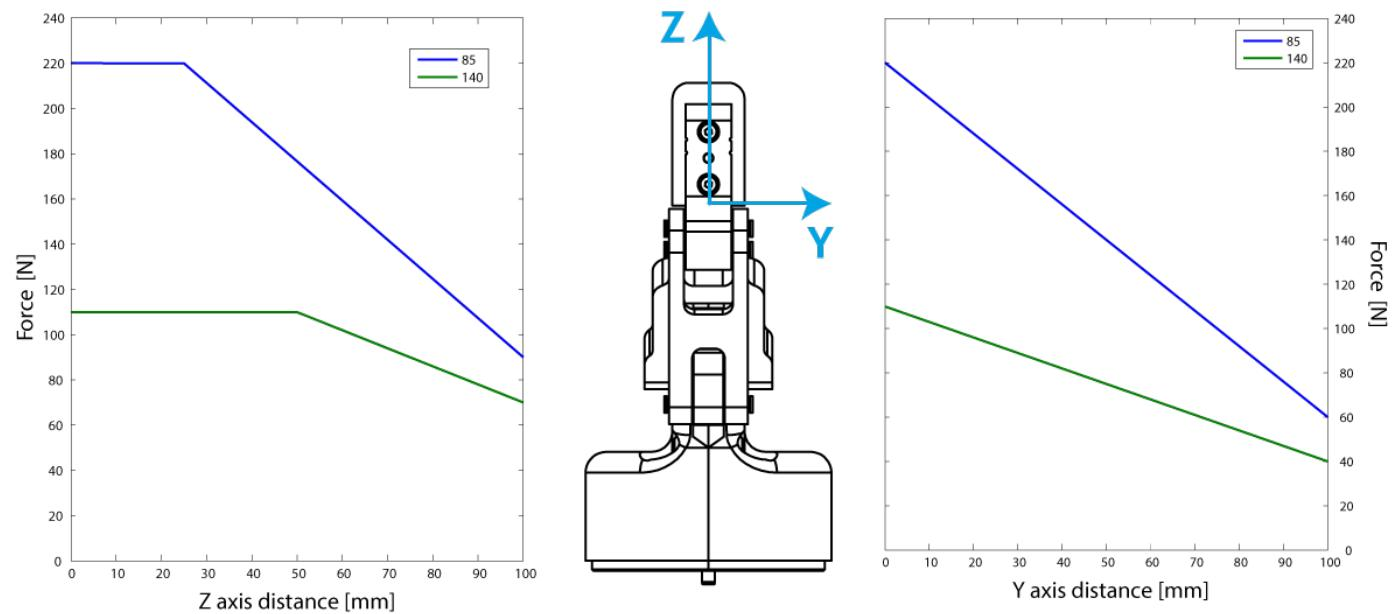

Fig. 6-18: Grasp force in the Y and Z axis for the 2-Finger 85 and 2-Finger 140.
- Fingertip must not exceed 100 mm in width from the fingertip's base (refer to Y axis from figure 6-18).
The user of the Gripper must always ensure that the result of the forces against the finger is always lower than the maximum holding force as seen in figure 6-18.
\* Moments in x and y are calculated from the base of the fingertips as shown in figure 6-18.